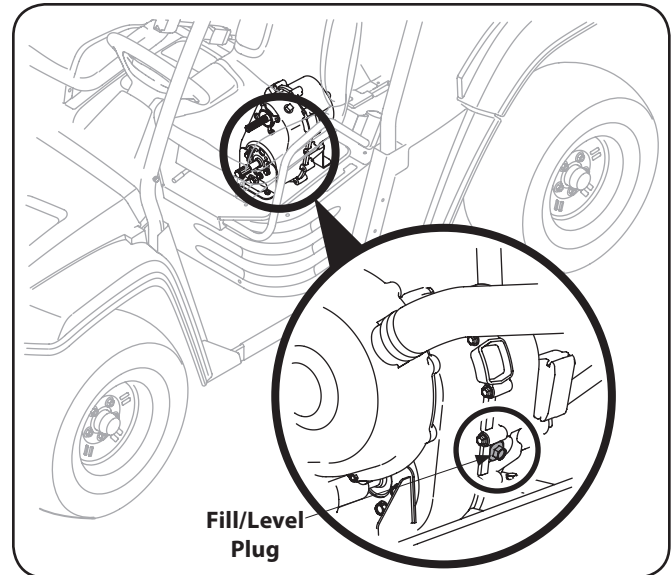

Figure 6-5
4. Access fill level plug through slot on side of machine and remove plug. See Fig. 6-5.